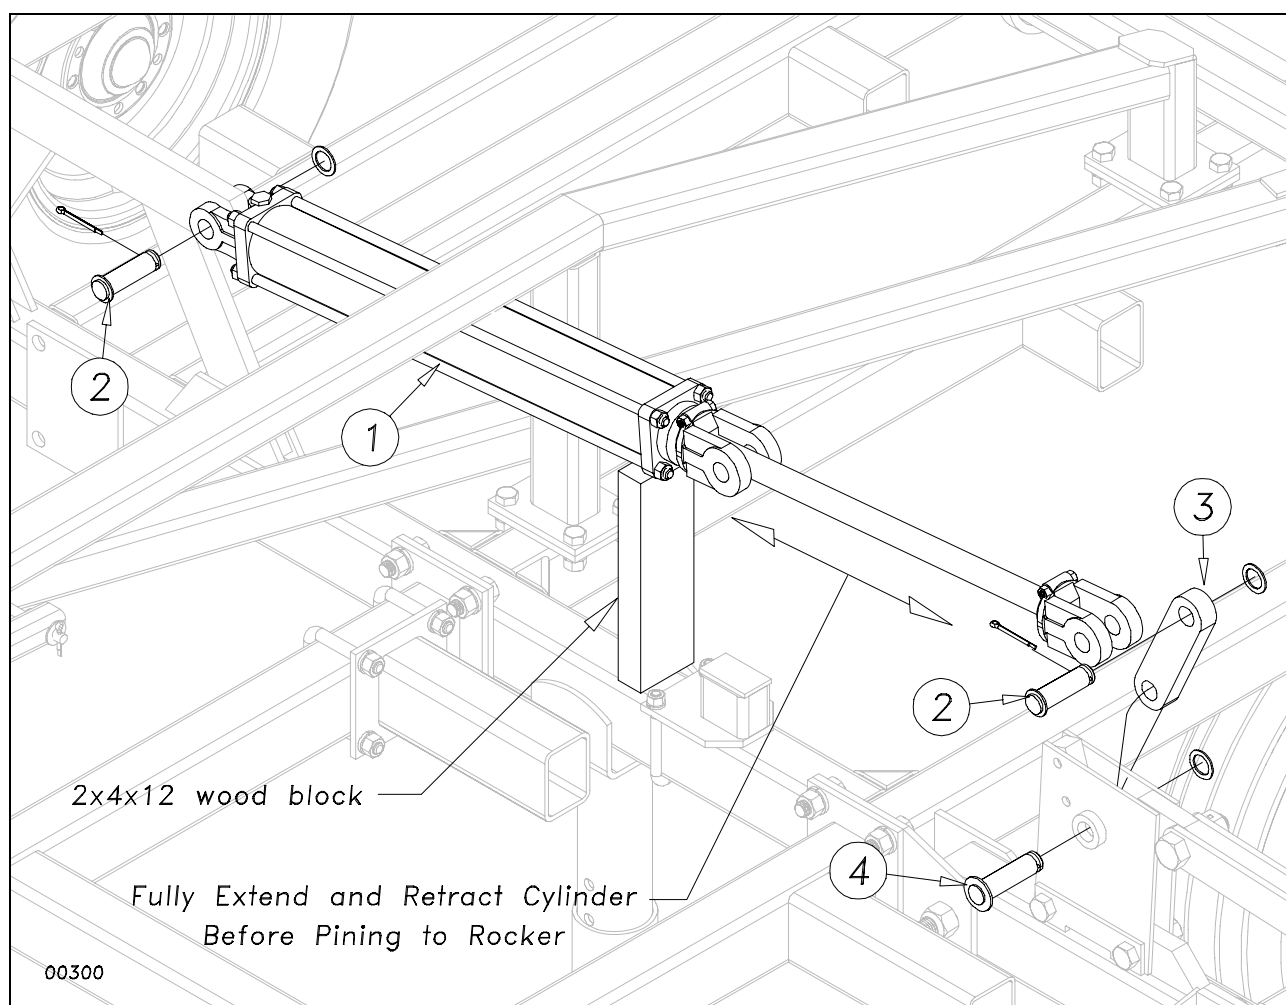

Figure 8
Connect the center fold cylinders (1) to the center fold bracket as shown in Figure 8. Use the 1" x 3 1/2 clevis pin (2) with 1" machine washer and 3/16 x 2 cotter pin. Attach the rocker (3) to rocker bracket with 1 x 3 Headed Pin (4) using 1" machine washer and 3/16 x 2 cotter. **Do Not Connect Rod End Of Cylinders To Rockers Before They Are Charged With Oil.**